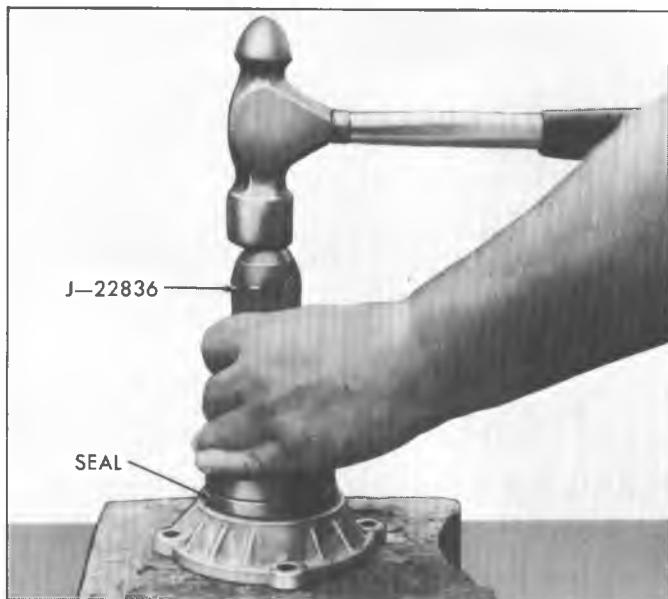

Fig. 7B-20S--Installing Front Output Bearing Retainer Seal
### ASSEMBLY OF TRANSFER CASE (FIGS. 7B-1S and 7B-11S)
- Place range box on blocks, with input gear side toward bench (Fig. 7B-21S).